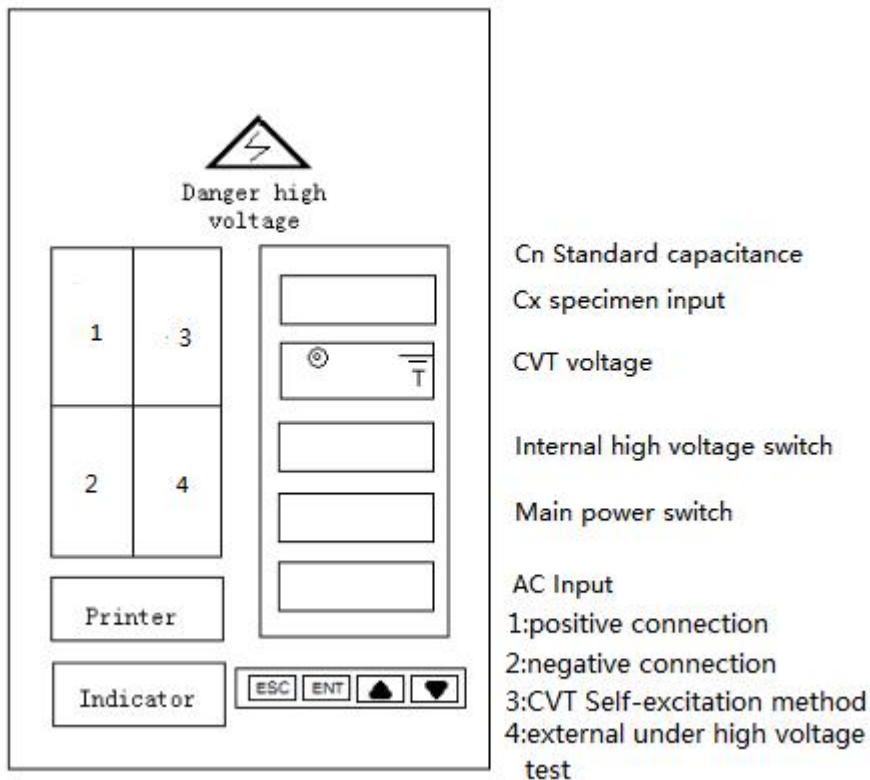
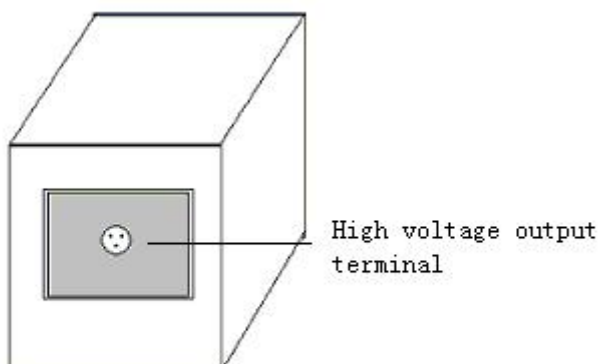

Figure 2
Figure 3
1. The diagram for control panel (Figure 2) and high voltage backplane (Figure 3)